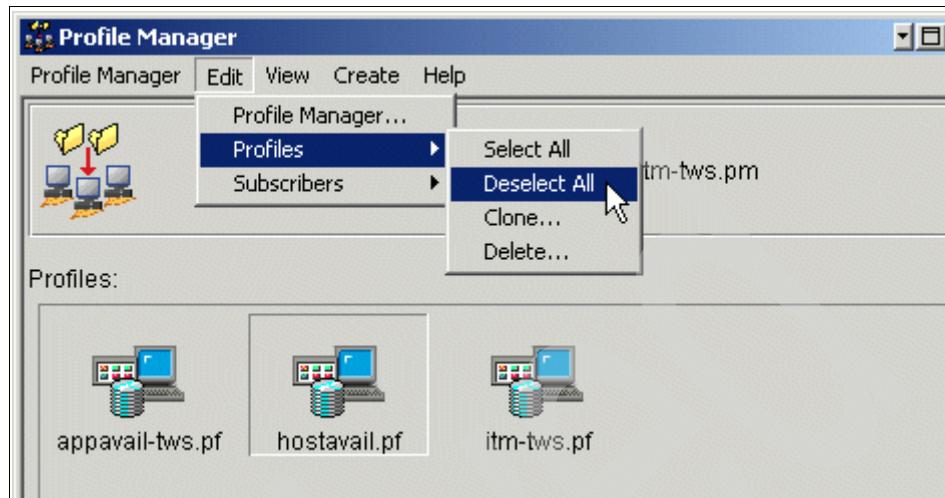

Figure 9-140 Deselecting selected profiles
7. Select **Edit** → **Profiles** → **Deselect All** as shown in Figure 9-140.